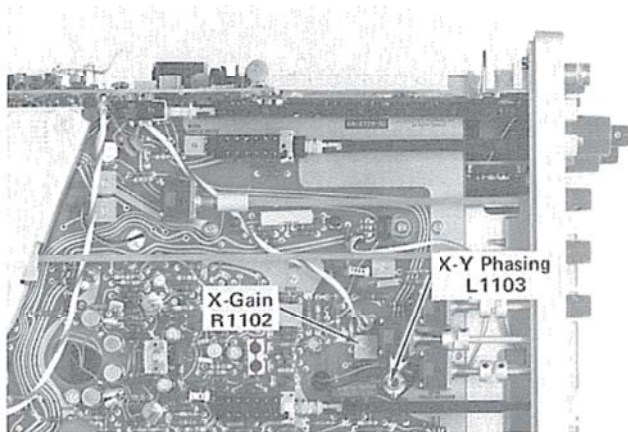

Fig. 5-31. Location of X Gain and X-Y Phasing adjustments.
d. ADJUST—X-Gain adjustment, R1102 (see Fig. 5-31) for exactly four divisions of deflection between the two dots displayed on the CRT.
h. ADJUST—L1103 (see Fig. 5-31), for maximum closing of the display.